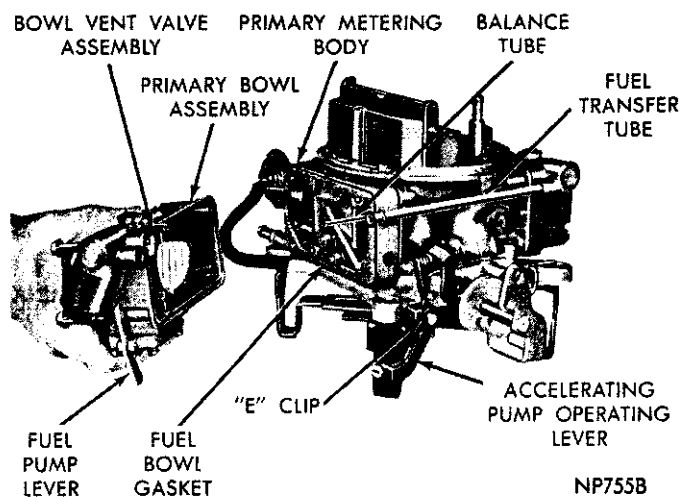

Fig. 2—Removing or Installing Primary Fuel Bowl
(1) Install four elevating legs, Tool T109-287S in mounting flange holes in throttle body, or use Carburetor Stand C-3886. (These tools are used to protect the throttle valves from damage and to provide a suitable base for working).
(2) Remove primary fuel bowl assembly by sliding straight off balance tube (Fig. 2).